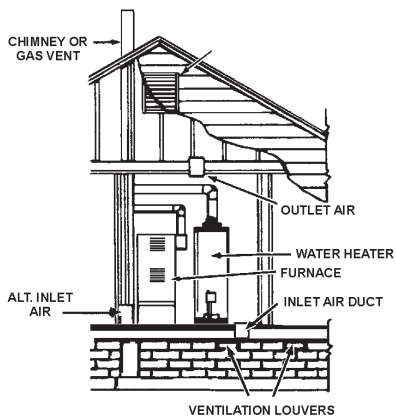

FIGURE 6.
B. ALL AIR FROM OUTDOORS: (See Figures 6, 7 and 8)
- When directly communicating with the outdoors, each opening shall have a minimum free area of 1 square inch per 4,000 Btu per hour (5.5 cm²/kW) of total input rating of all equipment in the enclosure, see Figure 6.